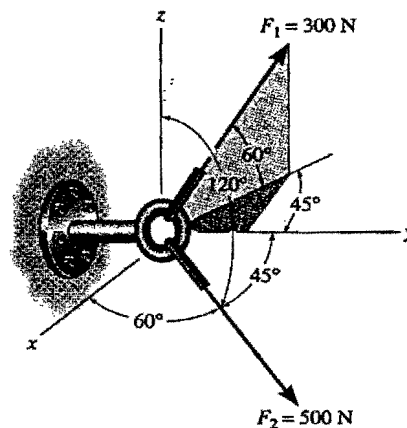

Figure 1
- b) The screw eye is subjected to the two forces shown in Figure 1.